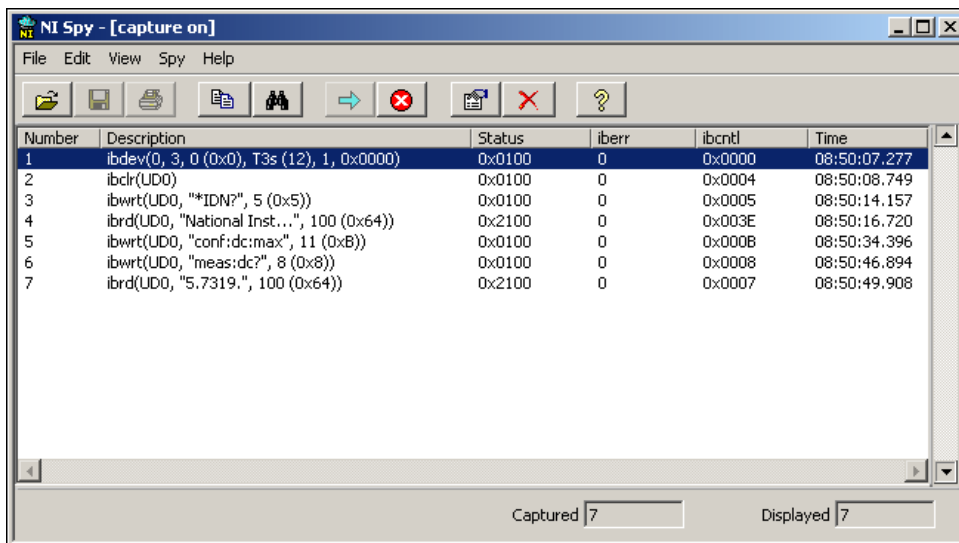

Figure 6-1. NI-488.2 Calls Recorded by NI Spy, Shown on Windows
2. Start the NI-488.2 application you want to monitor. NI Spy records and displays all NI-488.2 calls, as shown in Figure 6-1.